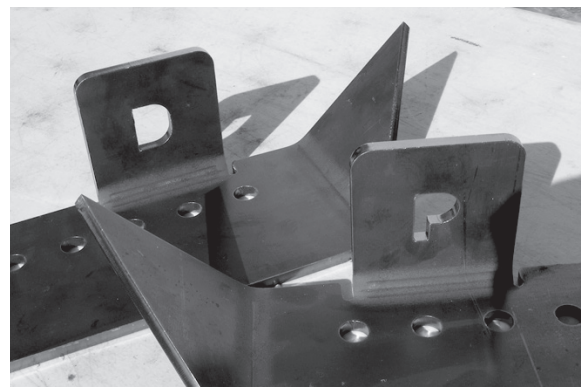

FIGURE 5
5. **Install the rear outboard brackets**. Each bracket has a "D" or "P" laser-cut into it, as shown in Figure 5, it to identify it as being for either the driver or passenger side of the Jeep.